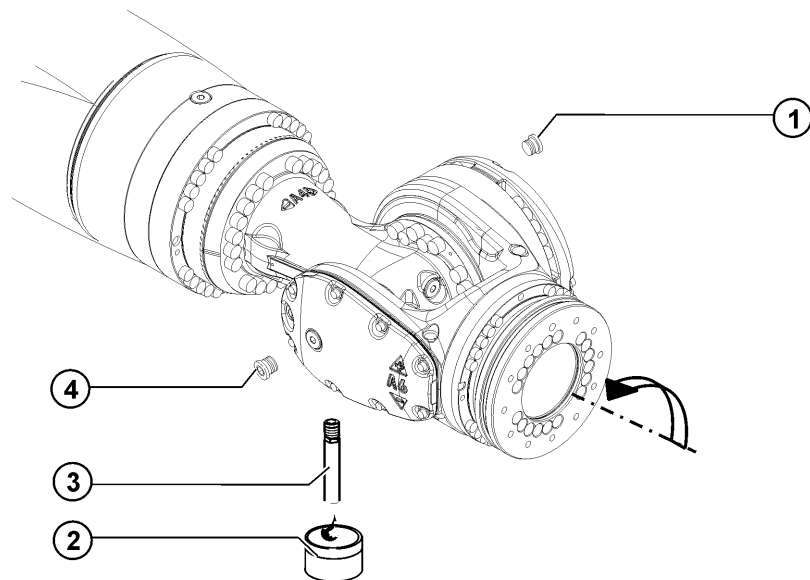

Fig. 9-6: Oil change, A5
2. Place a suitable receptacle (\gg Fig. 9-6) under the (lower) magnetic screw plug and remove the magnetic screw plug.